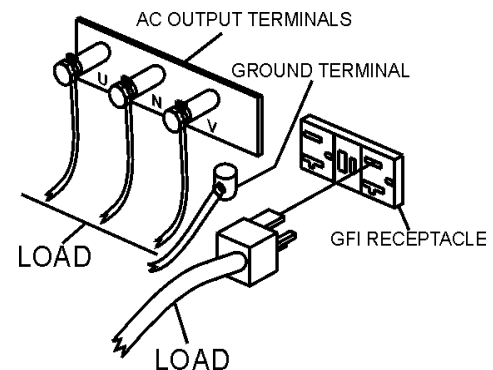

Figure 44. UVW Terminal Lugs (Load)
2. Connect the load to the UVW terminals as shown in Figure 44. These terminals can be found on the output terminal panel, (see page 35 Figure 15). To gain access to the output terminals lift the UVW cover. Tighten terminal nuts securely to prevent load wires from slipping out.